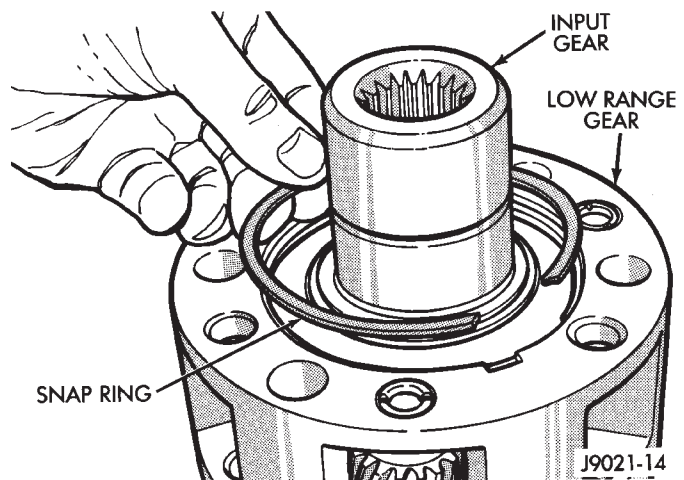

Fig. 26 Removing Low Range Gear Snap Ring
- (38) Remove low range gear snap ring (Fig. 26).